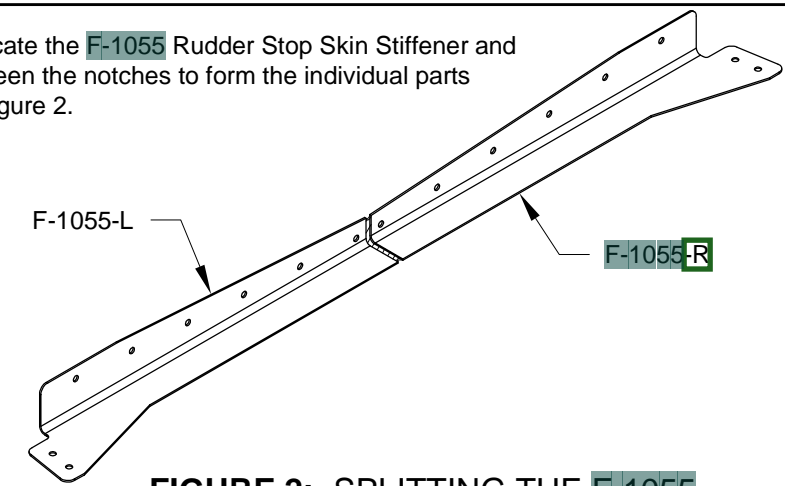

FIGURE 2: SPLITTING THE F-1055 RUDDER STOP SKIN STIFFENER
Step 4: Locate the **F-1055** Rudder Stop Skin Stiffener and split it between the notches to form the individual parts shown in Figure 2.